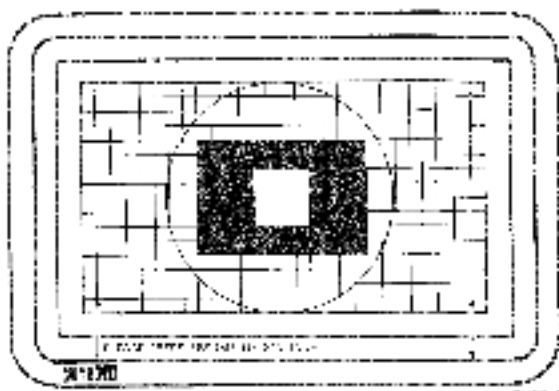

Figure 3-7 Universal Alignment Pattern
1. Measure the distance in two places between the alignment pattern and the monitor bezel (figures 3-7 and 3-8). Use the scale on the template for the measurements. Make a note of each measurement and compare both measurements. The difference between the measurements should not be greater than .3 mm. If the difference is greater, go to step 4.